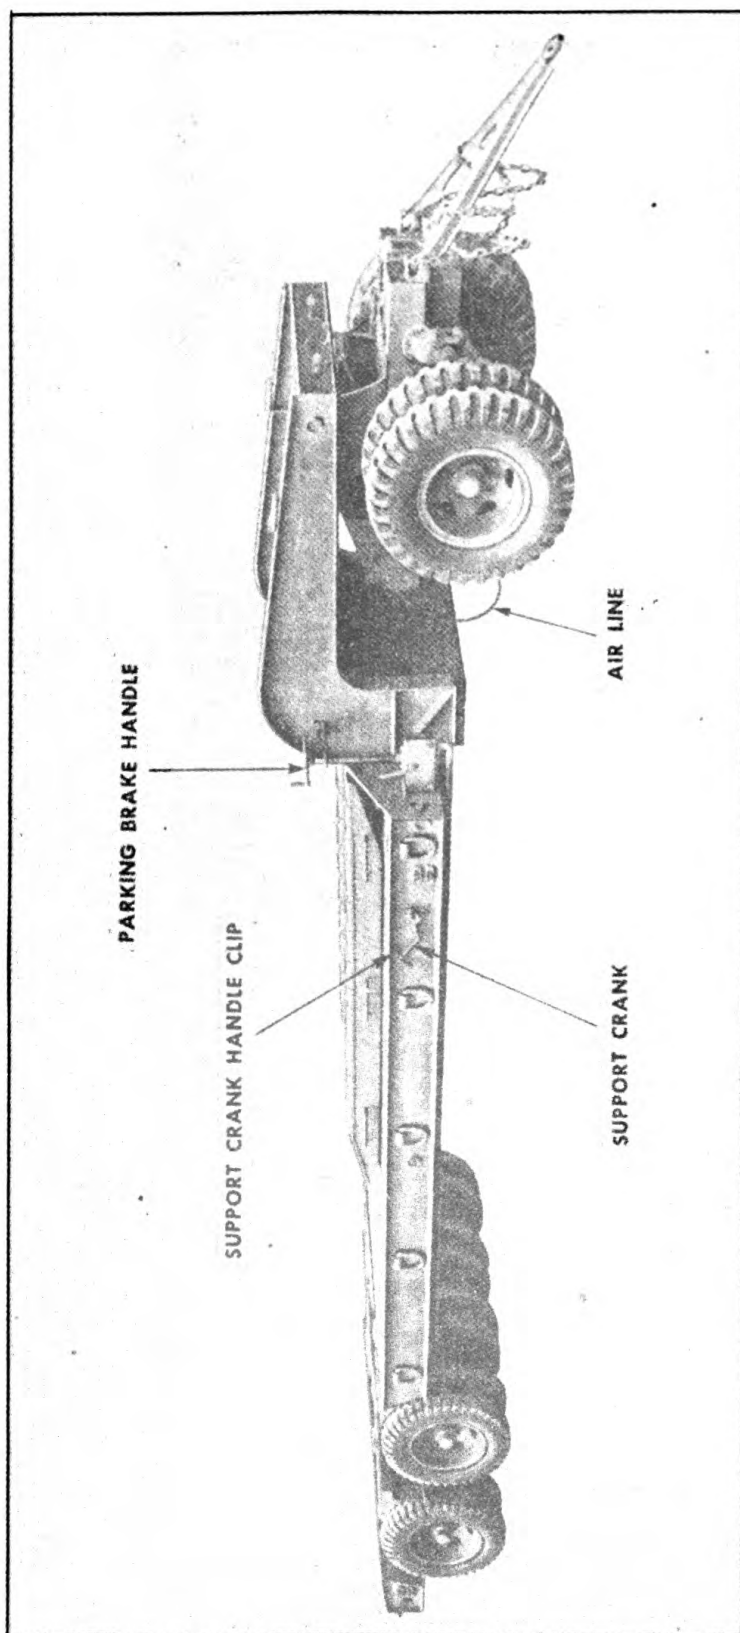

FIGURE 2. CONTROLS—THREE-QUARTER FRONT VIEW.
1. **CONTROLS** (Figures 2, 3 and 4).—The controls are employed according to the usual trailer-truck combination practice. The driver must become thoroughly familiar with the location and use of all control devices before attempting to operate the vehicles.
a. Hand brake (Figure 2).—The hand brake is located on the right side of the trailer at the drop in the frame. Turning the wheel down, in a clockwise direction, applies the brakes. The hand brake can be used as a parking brake or as a supplement to the truck brakes, when descending extremely steep grades with a heavy load.
d. *Support crank (semi)* (Figure 2).—Support crank is located on right side of trailer. When not in use, it is folded to the frame and held in place by a spring clip. When uncoupling trailer from tractor or converter gear, support may be let down by turning support crank in a clockwise direction.
e. *Support jacks* (Figure 2).—Each support leg is equipped with a hydraulic jack. To operate jacks, close release screw and place jack handle into handle socket. To raise jack pump handle up and down. Jack handle is stored in tool compartment.